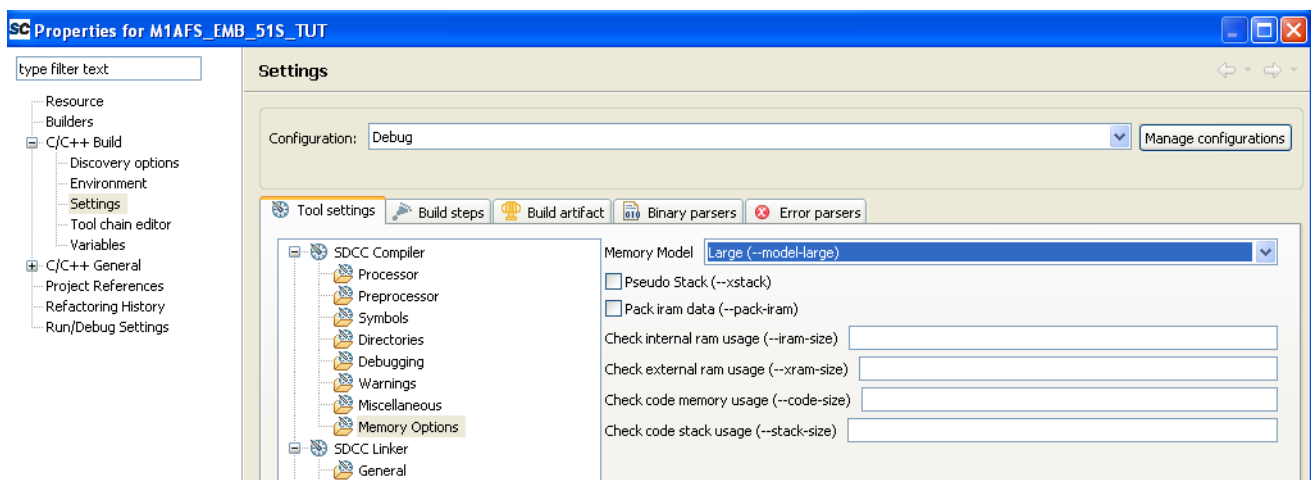

Figure 4-7 · Setting the Compiler Memory Model To Large
4. In the Memory Model box, use the pull-down menu and select either Large or Small (Figure 4-7).